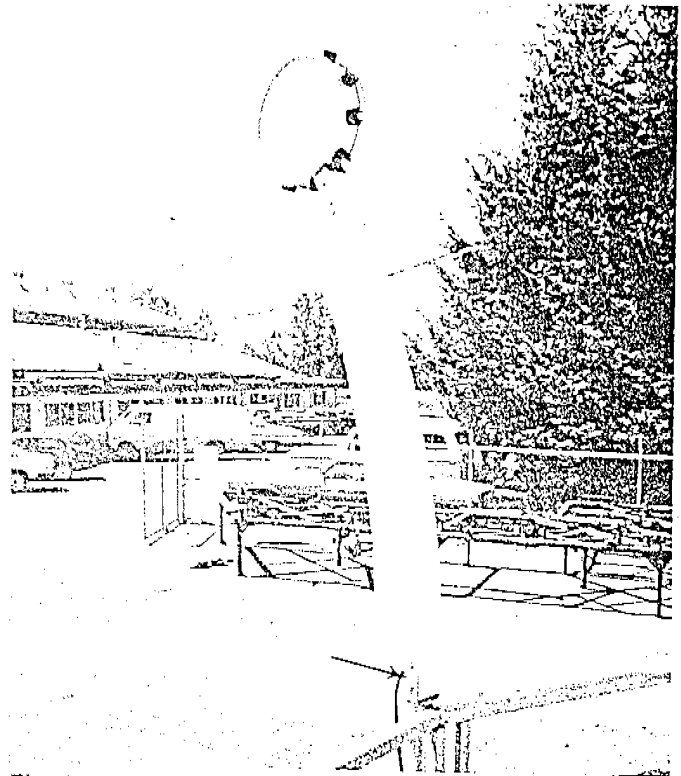

Fig. 26
- (1) Slide the leg at the base of the banjo light into the outside socket at the top of the vertical bar that extends up from the walkway support frame. Position the banjo light so it arches away from the center of the ride. (Fig. 26)